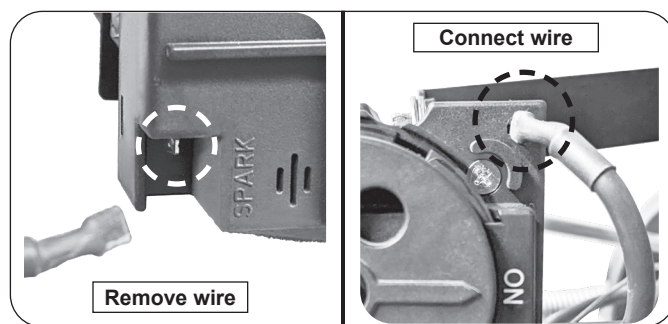

Fig. 8-2 Piezo igniter rewiring (if desired)
Change the ignition cable from the receiver to the valve (see Fig. 8-2). Push in the piezo ignitor to ignite. If pilot does not stay lit, wait five (5) minutes and repeat.